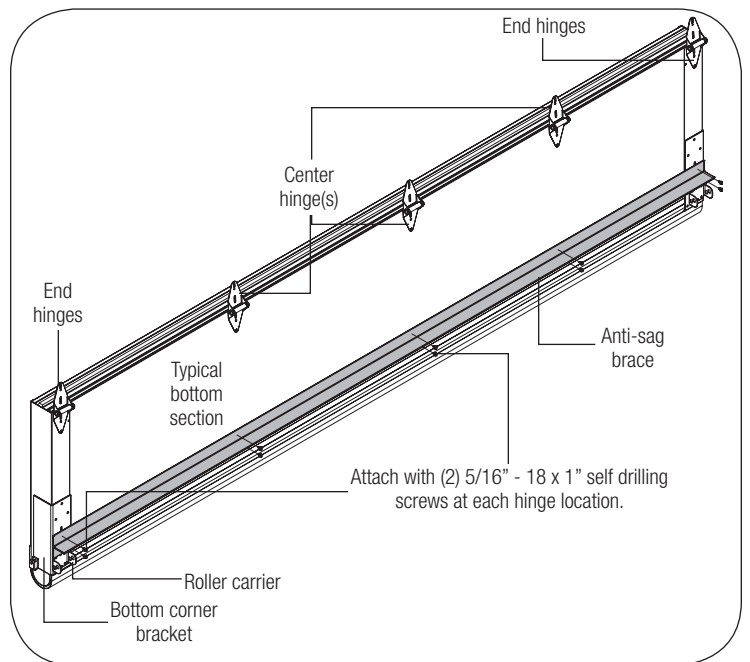

FIG. 1.4
Position and center the anti-sag brace onto bottom corner brackets and above the roller carriers, as shown. Secure anti-sag brace to the bottom section with (2) 5/16" - 18 x 1" self drilling screws at each end and center hinge locations, as shown in FIG. 1.4.